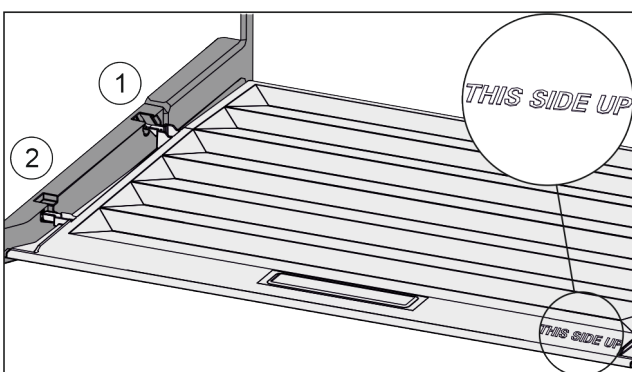

Fig. 150
- ▶ Insert the lip of the cover over the opening of the rear bracket Fig. 150 (1) and click into place Fig. 150 (2).